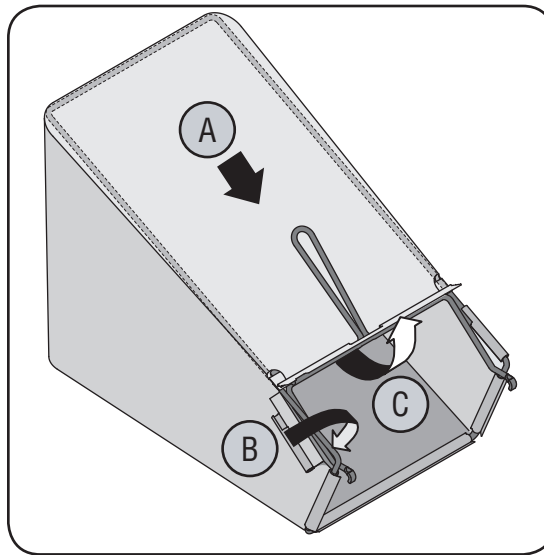

Figure 3-6
- a. Place bag over frame (black plastic side is the bottom of bag.) Insert the hooks on the frame through the holes in the side plastic channels of the bag. See Figure 3-6.
- b. Secure bag to frame by working the plastic channels on bag over frame as shown in Figure 3-6. All of the plastic channels except center top of bag attach from the outside of bag. Center top of bag attaches from the inside of bag.